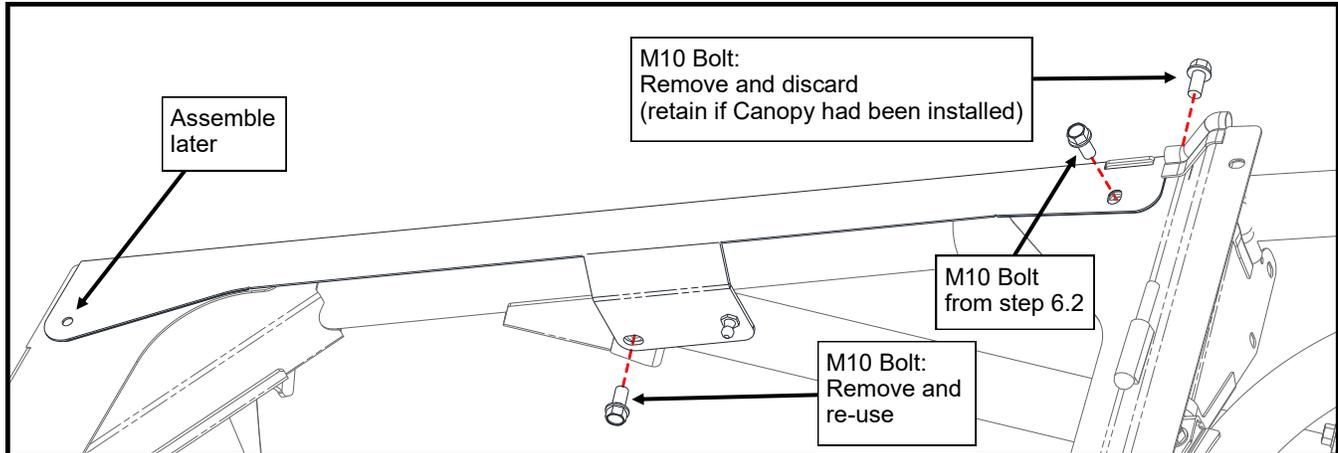

Figure 7.1: Front Side Headers (Driver's side shown)
- 7.1 For each side, one side at a time, remove and retain the M10 bolt at the underside of the front end of the front ROPS cross member, and the M10 bolt at the top of the ROPS above the B-pillar (see Figure 7.1).